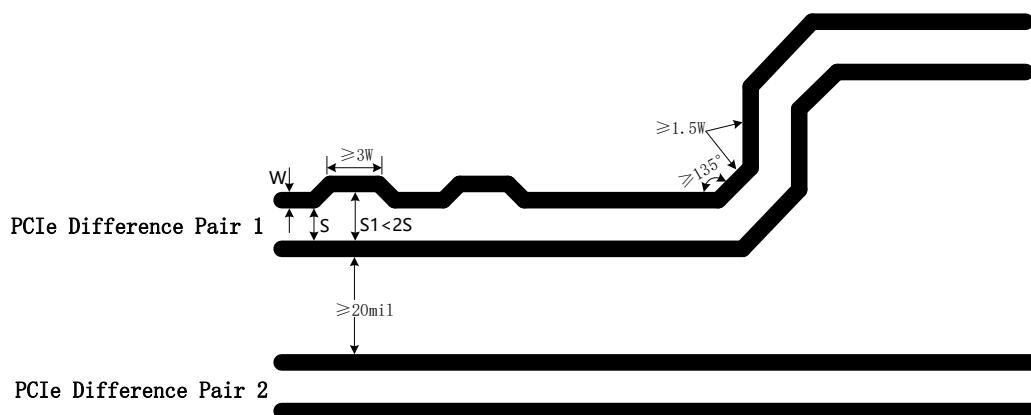

Figure 3-14 Requirement of PCIe line
- Try to avoid bended lines and avoid introducing common-mode noise in the system, which will influence the signal integrity and EMI of difference pair. As shown in Figure 3-14, the bending angle of all lines should be equal or greater than 135°, the spacing between difference pair lines should be larger than 20mil, and the line caused by bending should be greater than 1.5 times line width at least. When a serpentine line is used for length match with another line, the bended length of each segment shall be at least 3 times the line width ( $\geq 3W$ ). The largest spacing between the bended part of the serpentine line and another one of the differential lines must be less than 2 times the spacing of normal differential lines ( $S1 < 2S$ );